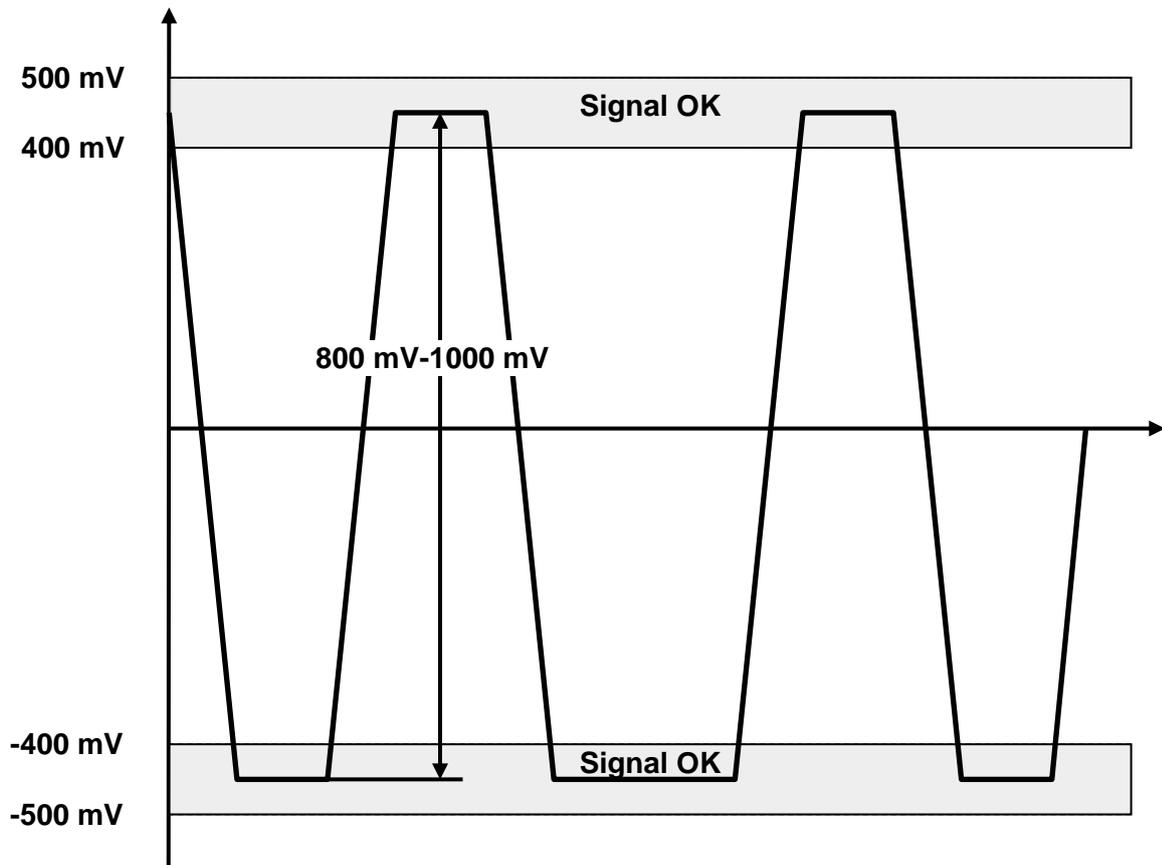

Figure 5-9: Ideal signal form PROFIBUS MBP (PA)
In practice you will never encounter an ideal signal form as shown in Figure 5-9. In Figure 5-11 is shown of what a data telegram can really look like on the PROFIBUS MBP (PA).